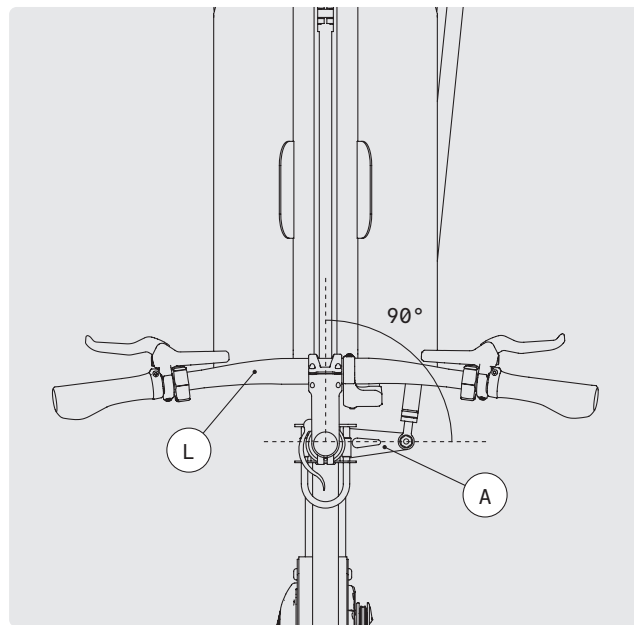

FIG. 30
Toe adjustment is necessary if the boom A with straight aligned handlebar L and straight front wheel is no longer at a 90° angle to the frame as in Fig. 30.
- 1 Loosen the counter nut of the eyebolt with a 17 mm open-ended spanner (Fig. 30).